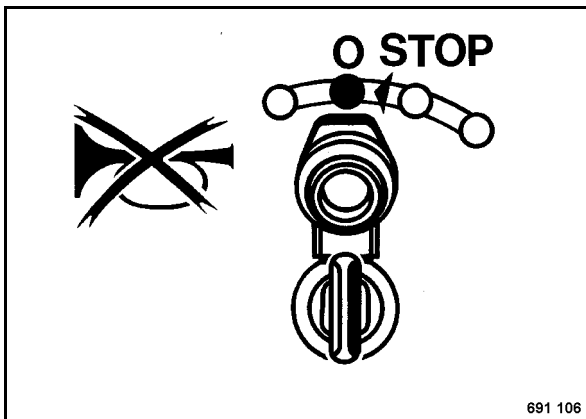

Fig. 41
- Turn the ignition key (Fig. 41) to position "0" and pull it out. The warning buzzer stops.